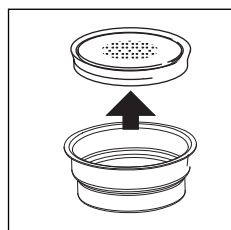

fig. 23
- Remove the crema enhancer from the container by pushing it from the cap end (fig. 23).